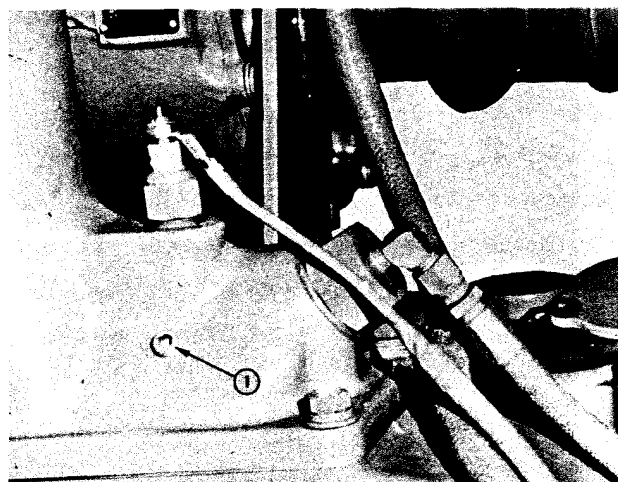

Fig. 1-13, (N11949). Glow plug inspection hole
1. If the engine gives no indication of starting during the first three full strokes of the preheater pump, touch-check the intake manifold for heat. If there is no heat, check electric wiring. If wiring is all right, remove 1/8 inch pipe plug (1, Fig. 1-13) from manifold near glow plug and carefully check for flame while a helper performs the preceding Steps 2, 3 and 4.